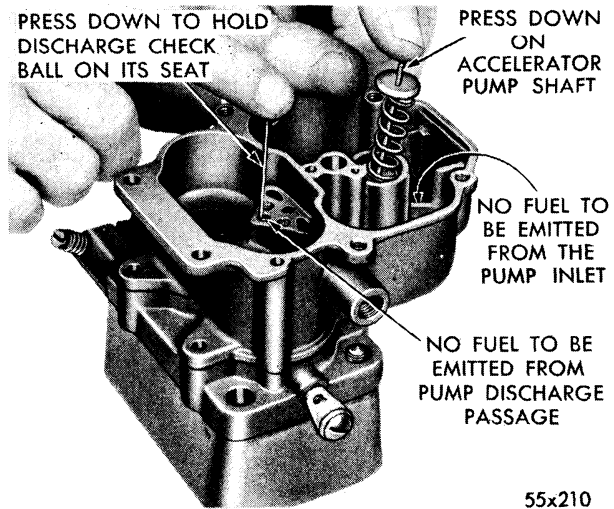

Fig. 14—Accelerator Pump Test
- (1) Remove the accelerator pump plunger from the jar of gasoline. Flare back the leather several times, then slide into the pump well.
- (2) Pour clean gasoline into the float chamber (approximately $\frac{1}{2}$ inch deep).
- (3) Raise the pump plunger and press lightly on plunger shaft, forcing the plunger down into the well. Do this several times until all air is removed from the discharge passage.
- (4) Using a small clean brass rod, hold the discharge check ball firmly on its seat, as shown in Figure 14.